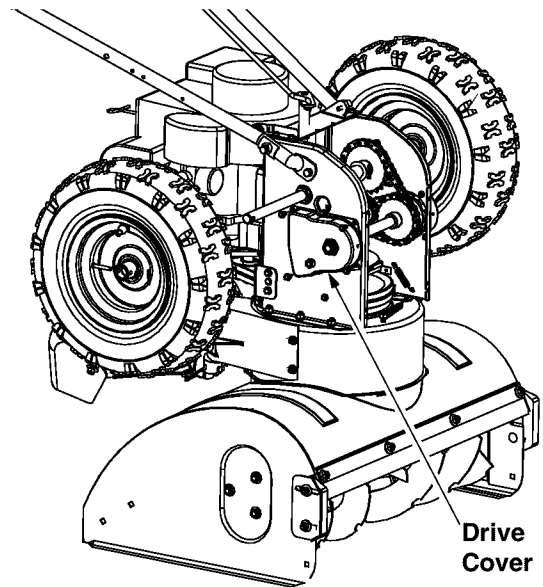

Figure 26
- Remove the four screws securing the left drive cover to the frame. Remove the drive cover from the side of the frame. See Figure 26.